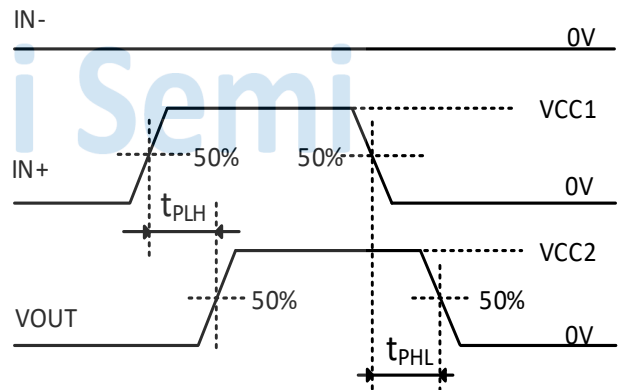

Figure21. Propagation delay time waveform measurement
(1) t_{PLH} = low-to-high propagation delay time, t_{PHL} = high-to-low propagation delay time. See Figure21.